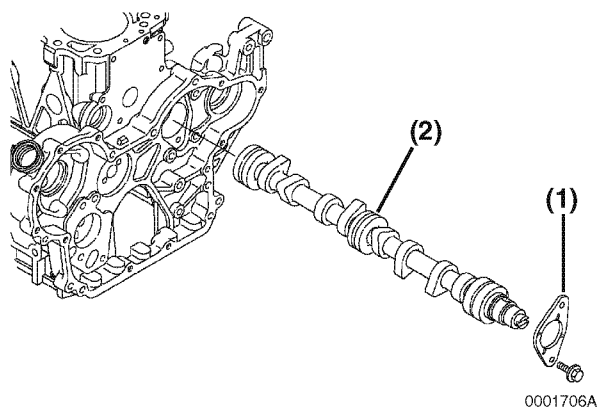
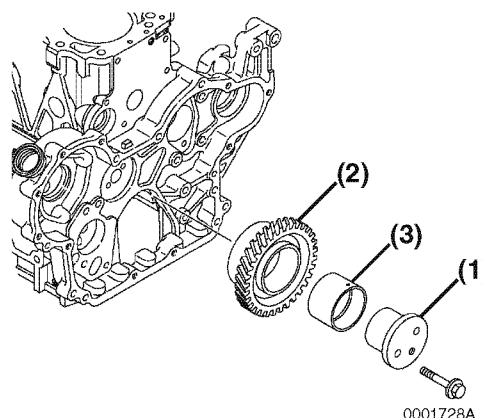

Figure 6-80
Figure 6-81
2. Lubricate the camshaft (**Figure 6-80, (2)**). Slowly insert the camshaft through the front of the engine.
3. Position the camshaft thrust plate (**Figure 6-80, (1)**) to the gear case. Tighten the thrust plate bolt to the specified torque.
1. Lubricate the idler gear (**Figure 6-81, (2)**), bushing (**Figure 6-80, (3)**) and idler gear shaft (**Figure 6-80, (1)**). Install the idler gear and idler gear shaft. Be sure the oil hole in the bushing is facing toward the top of the engine. Tighten the idler gear bolts to the specified torque.